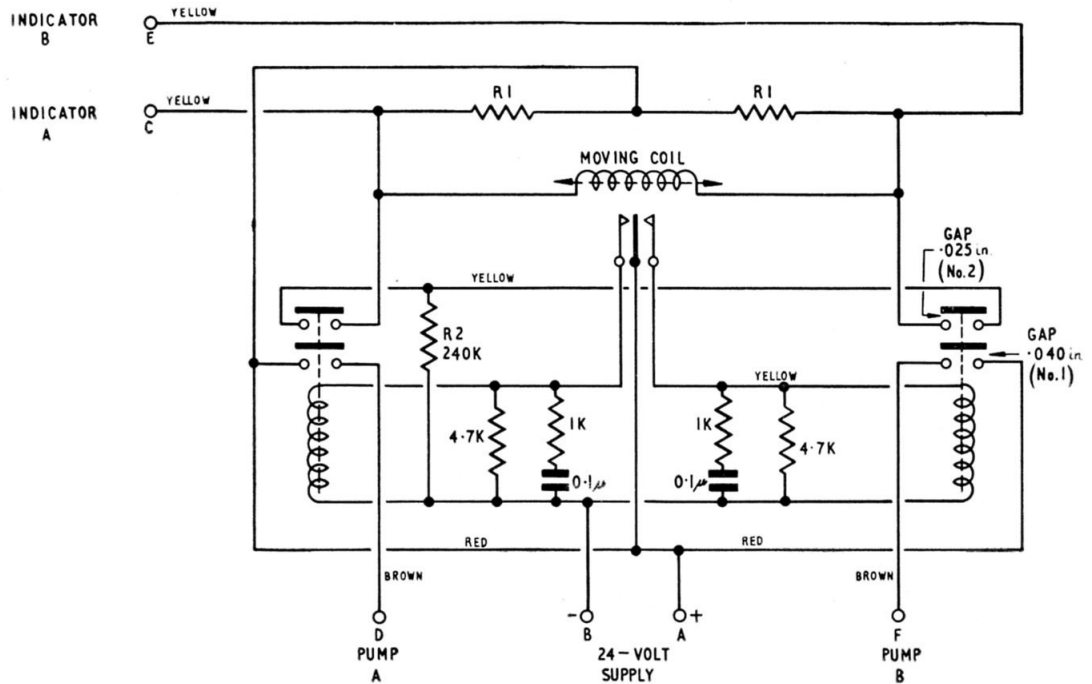

Fig. 3. Circuit diagram
**3.** A circuit diagram of the balancer relay is given in fig. 3. If the contents of the tanks served by indicator A are in the correct ratio to those of the tanks served by indicator B, the system will be in a state of balance, and no current will flow in the moving coil relay. If, however, the current through one indicator is greater than that through the other, due to unequal fuel content, a current will flow through the moving coil in one direction or the other, depending on which